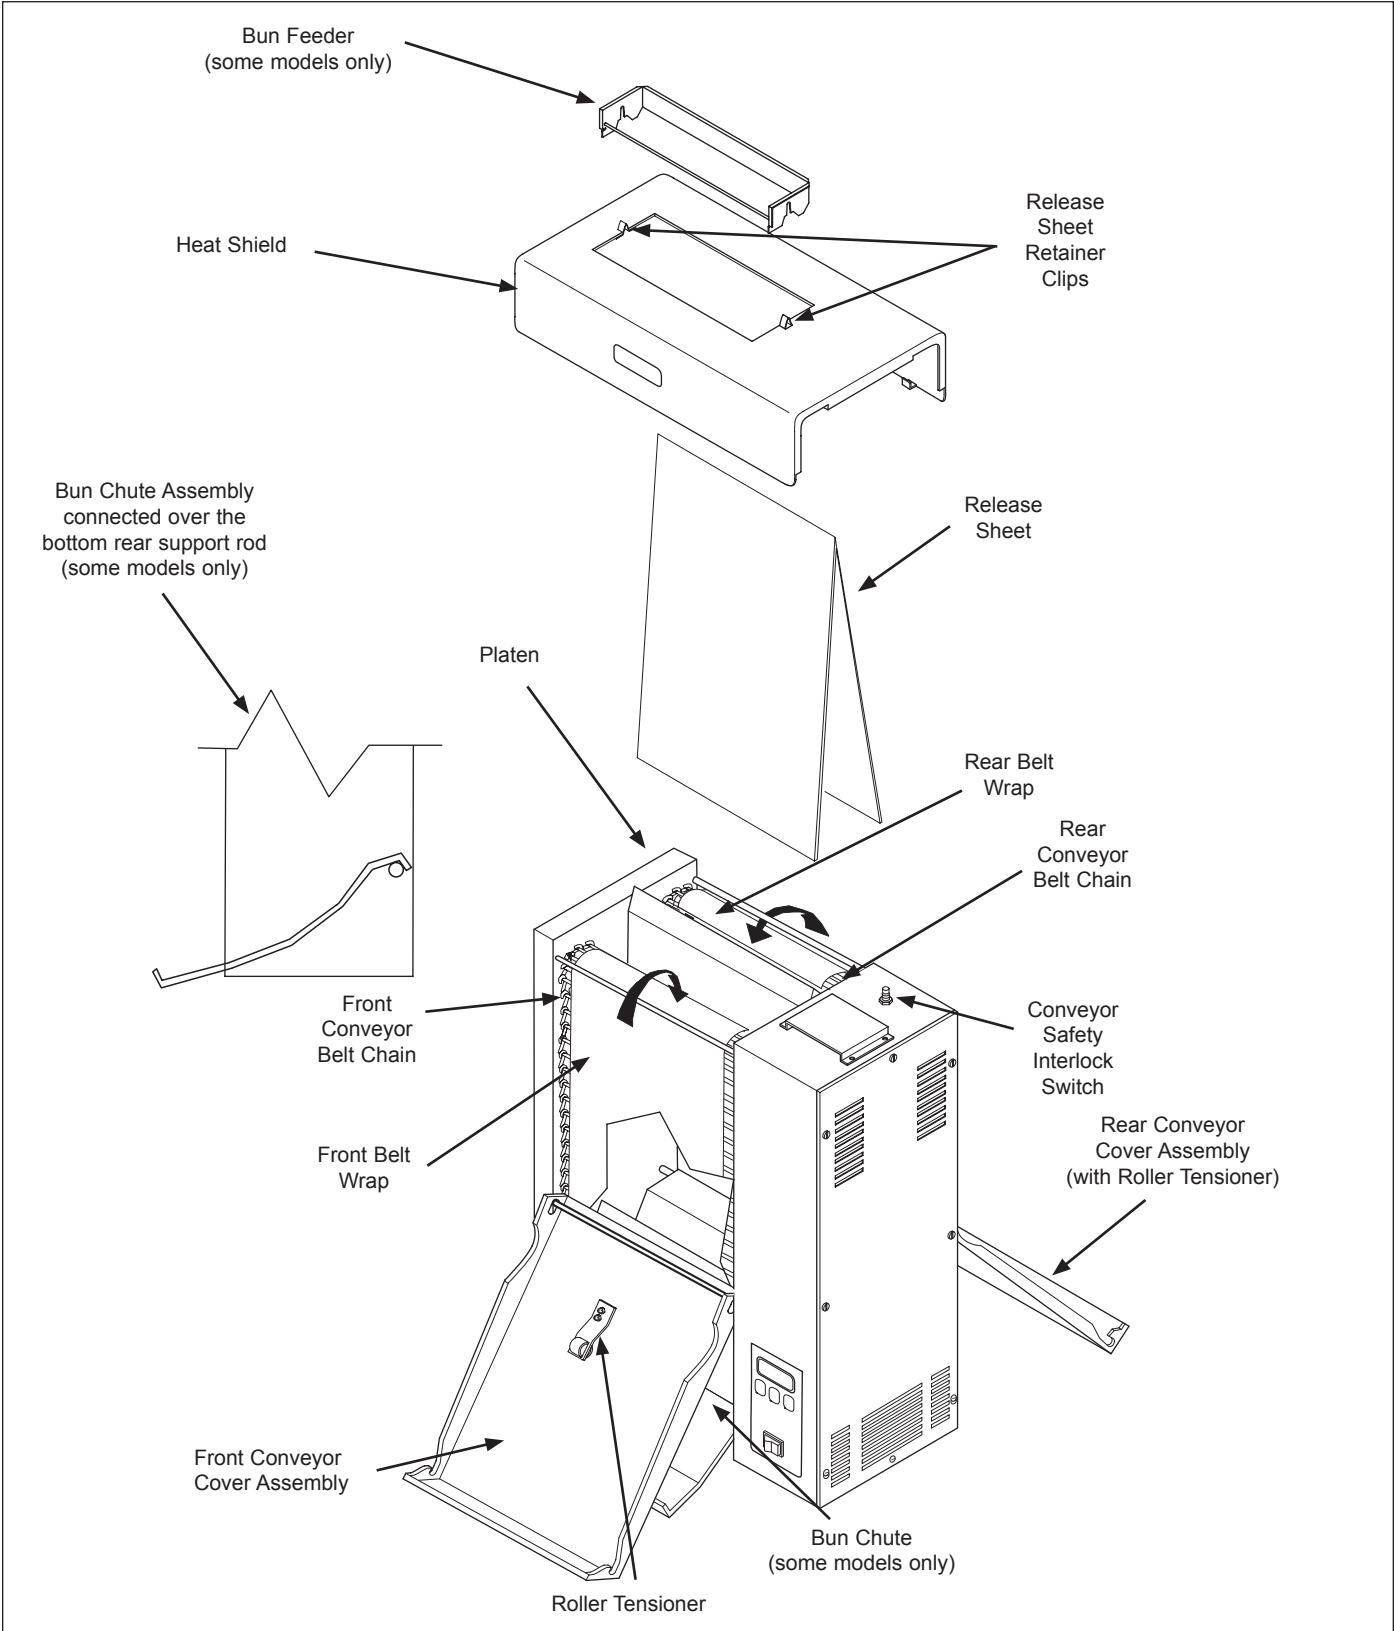
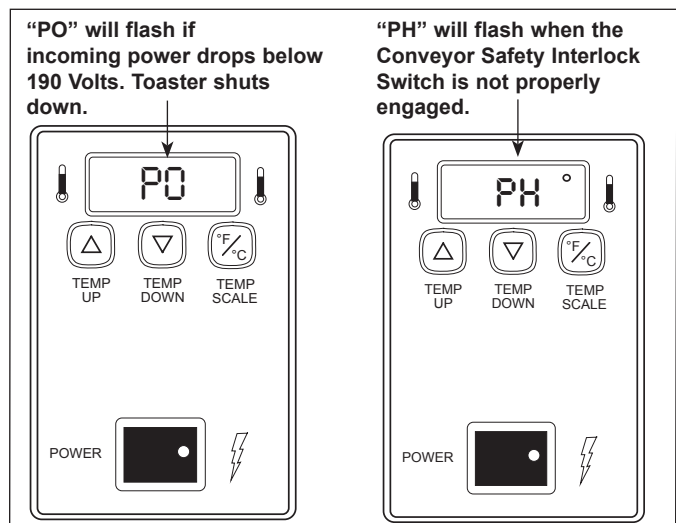

Figure 1. VCT-2000 Toaster
Figure 9. “PO” and “PH” Fault Messages
- Bun Chute (Figure 1) some models only.
- Bun Feeder (Figure 1) some models only.
- Two Release Sheets (Figure 1).
**NOTE:** The factory has pre-installed a Release Sheet over the Platen (Figure 1). Verify that it is properly in place before proceeding.
1. Remove Bun Chute (some models) and Bun Feeder from the box and install (Figure 1).
**IMPORTANT:** Make sure heat shield assembly is activating the Conveyor Safety Interlock Switch (see Figure 1). The conveyors will not rotate unless the Heat Shield is in place and Conveyor Safety Interlock Switch is activated.
- If incoming power drops below 175 Volts, the heating circuits are disabled and the display will read “PO” (Figure 9). To reset, the voltage must be over 190 Volts, then the unit must be turned off and back on. If this condition repeats, contact your Authorized Service Agency.
- The “PH” fault message (Figure 9) is displayed if the Conveyor Interlock Safety Switch (Figure 1) is not properly engaged. When a PH fault exists, reposition the Heat Shield so that it fully engages the Conveyor Safety Interlock Switch. The unit should return to normal operation when the Heat Shield is positioned correctly.